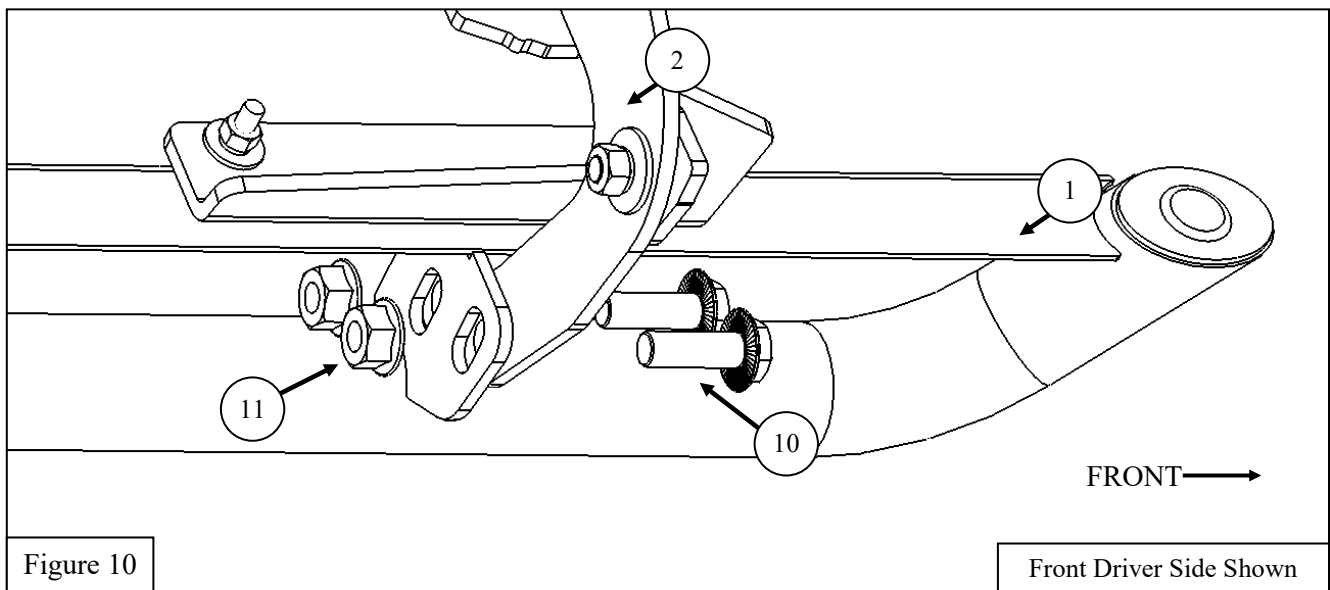

Figure 10
7. Install the Outlaw Step Bars (item 1) using the supplied M10 hardware (items 10-11). See **Figure 10**.